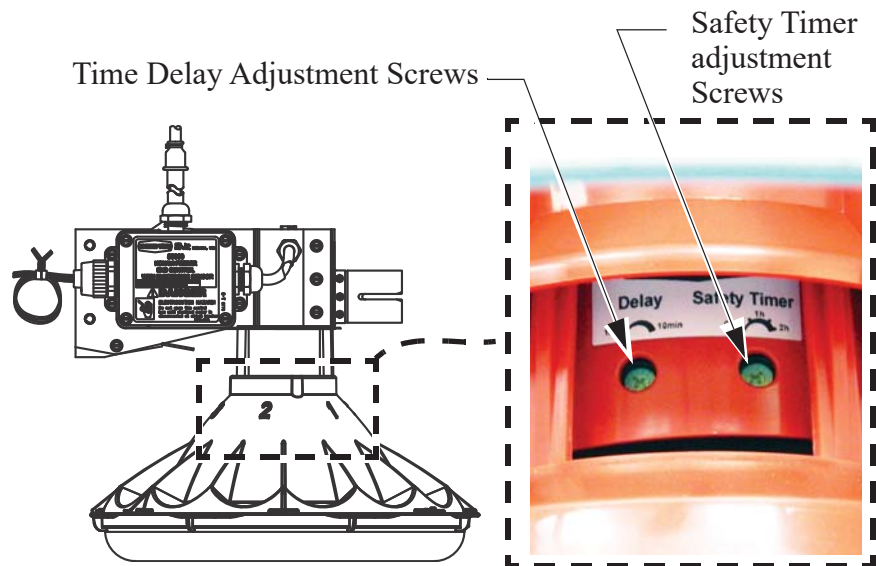

Figure 59.Switch Adjustment
See Figure 59. The Electron Sensor's sensitivity is preset at the factory. The time delay adjustment is 1 minute to 10 minutes. *The factory setting is 1 minute.* The Sensor also comes with a Safety Timer that can be set to: Off, 1 hour, or 2 hours. The *factory setting is 2 hours.* To get access to the Adjustment Screws:
Step 2: Pull the Sensor Down to expose the Safety Timer and Time Delay Adjustment Screws See Figure 59.